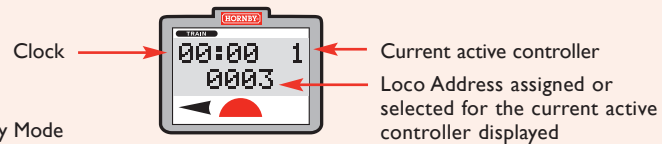

Fig. 1 Time Display Mode
The **Elite** is now ready to control a locomotive. At the end of the start-up sequence of the **Elite** the LCD will show the Time Display mode as shown in Fig. 1.
1. Connect the **Elite** to the Programming Track as shown in Fig. 1 on page 12.